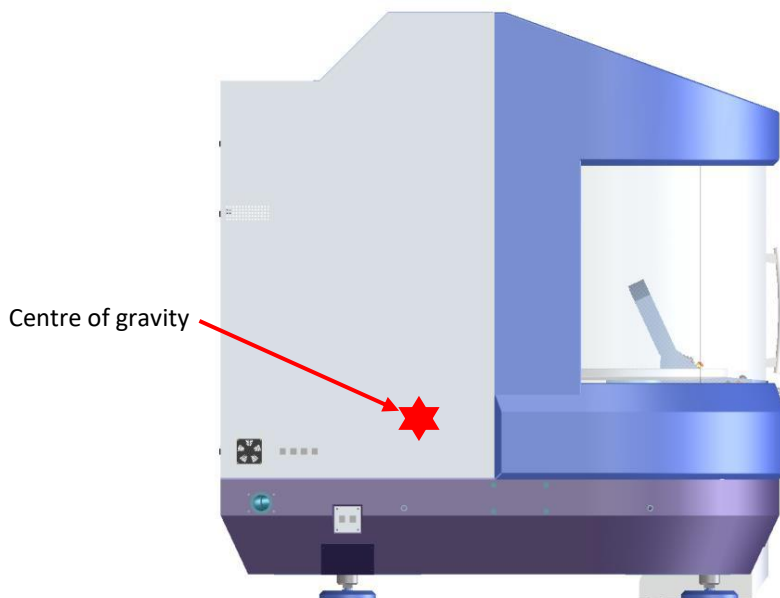

Figure 3 - Centre of gravity
- Note the centre of gravity shown in (Figure 3). Risk of Tipping Over!
**ATTENTION:** Please note the centre of gravity. See (Figure 3).